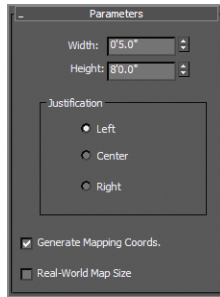

FIGURE 3.7
- c. Change Justification to Left, as shown in Figure 3.7.